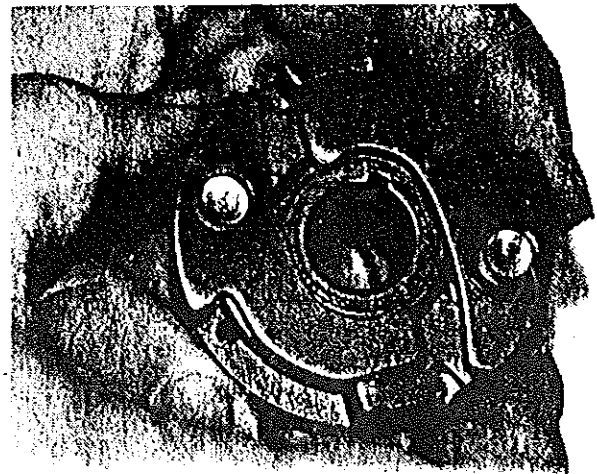

Figure 913. Checking Impulse Coupling for Magnetization
- A. Check cam assembly (11) and body (9) for magnetization which would prevent flyweights from engaging. Hold assembly as shown in Figures 913 and push upper position flyweight tail against body (9). When released, flyweight tail must drop down. If flyweight tail sticks to body, parts are magnetized and coupling may not function. Perform test on both flyweights.
- B. To demagnetize, place body (9) over shaft of a charged rotating magnet and spin body rapidly by hand. While body is still spinning, invert rotating magnet so body falls off. Catch body in hand and repeat test for magnetization.
- C. Clamp one drive lug of body (9) in a padded jaw vise with the spring recess side up.